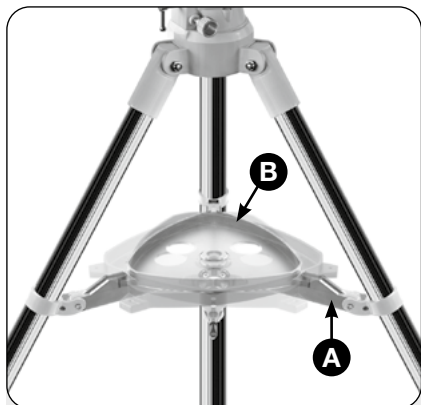

Fig 2 The tripod with accessory tray
2. Assembly - Tripod-legs: The tripod legs are pre-assembled and already connected to the tripod head and the tripod spider (A, Fig 2). Remove the tripod from its packaging and place it vertically with the tripod feet facing down. Now take two of the tripod legs and carefully pull these tripod legs apart to the fully open position. The entire weight of the tripod rests on one leg. Then set up straight the tripod. Now pull out each tripod leg individually to the desired length (Fig 3) and tighten each of the clamping screws (3 pcs.) by hand. Do not overtighten the screws! The clamping screws are used to lock the inner tripod leg segments at the desired height.
3. Assembly - Mount the shelf: The accessory tray (B, Fig 2) is placed in the centre of the tripod spider with the flat side facing downwards and mounted by turning it clockwise through 60°. The three lugs of the storage plate must align with the retaining brackets of the tripod spider and lock into place.